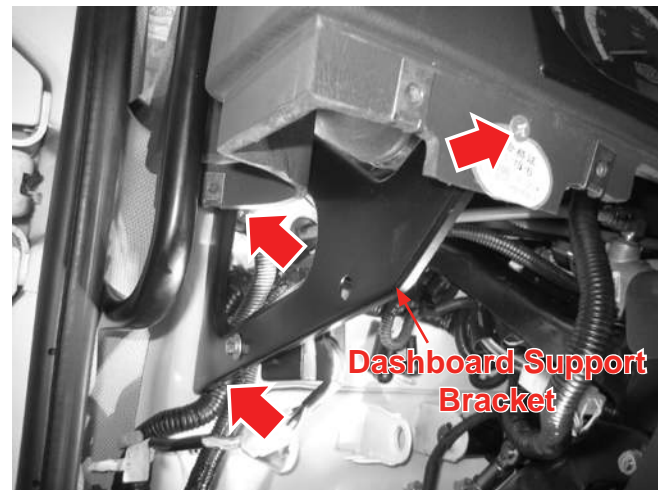

Figure 9-1
- Remove the 3 bolts securing the dashboard support bracket and set aside for reinstallation (see Figure 9-1).